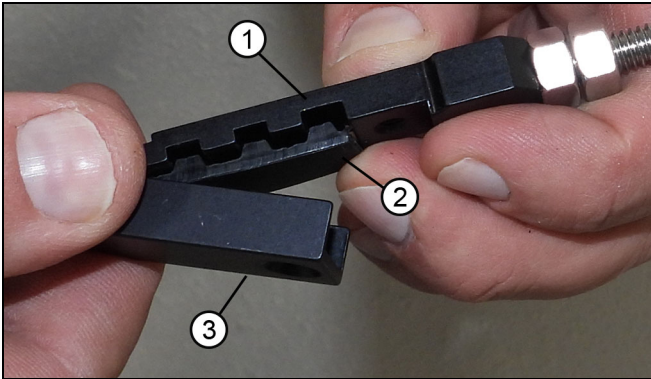

Figure 36
7. Fasten belt to turnbuckle, completing the loop. See Figure 36.